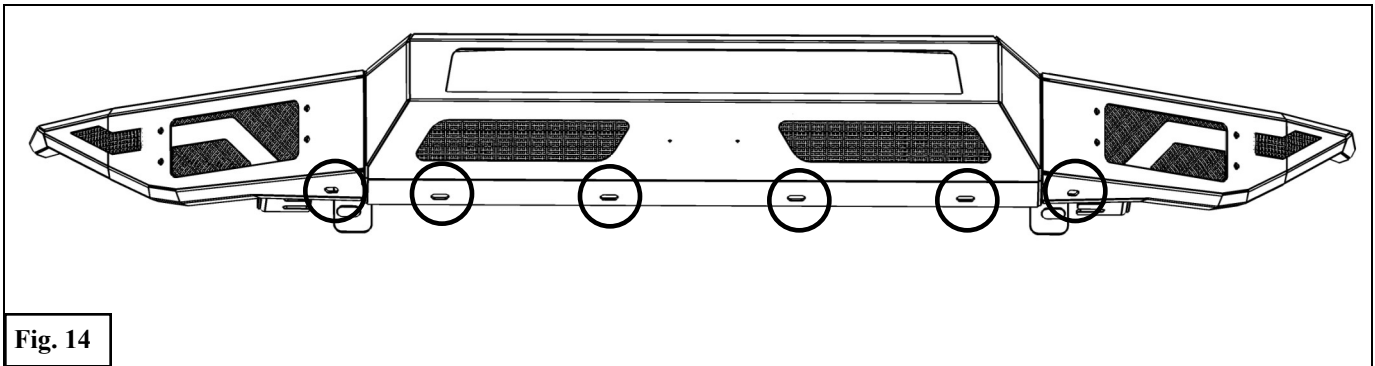

Fig. 14
13. Attach the supplied M8 U-Clips (27) to the Bumper along the bottom edge as shown in **Figure 14**.